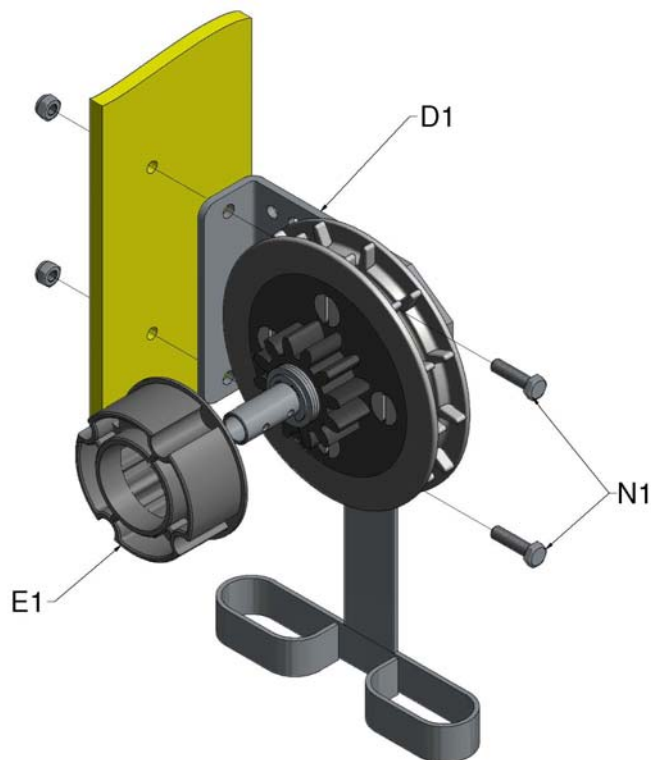
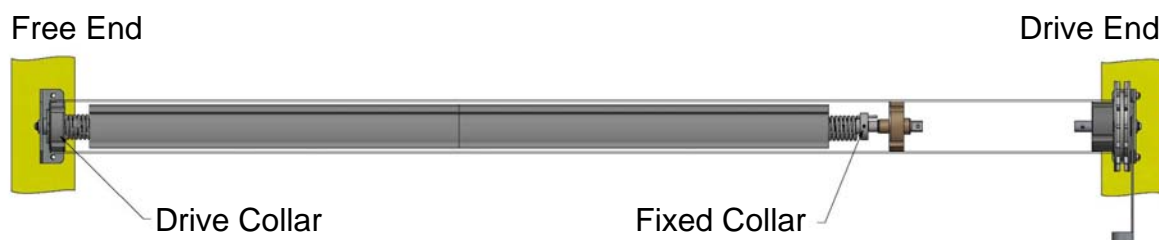

Figure 4a, Attach Drive Bracket to Building
Figure 4b, RH Door, Drive Bracket on the Right
3. Slide drive collar (E1) onto chain wheel gear attached to drive bracket (D1) and bolt assembly to the building with M8 fixings supplied, Figure 4a. The orientation of the drive bracket is as specified when you ordered your door, see Figure 4b and 4c, the spring is situated on the opposite side. If you wish to fit the drive bracket to the opposite side to that ordered, refer to instructions in Appendix I.